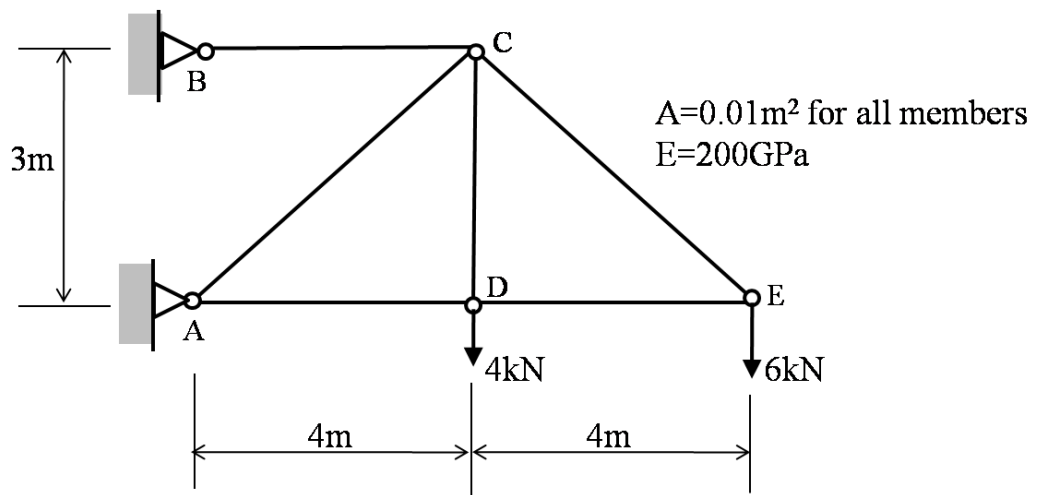

Figure 5
3. (a) **Figure 5** shows a pinned jointed cantilever truss structure carrying vertical loads 4kN and 6kN at joint D and E, respectively. All members have the same cross-sectional area of $A=0.01\text{m}^2$.